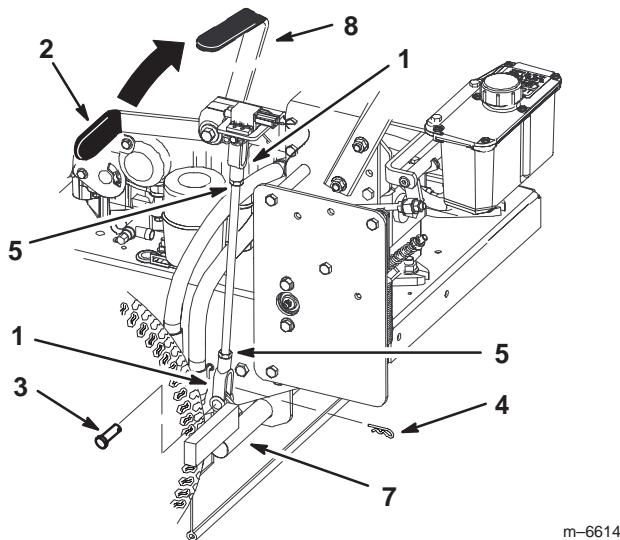

Figure 54
The brake handle is on the left side of machine (Fig. 54). If the parking brake does not hold securely, an adjustment is required.
3. Loosen the top and bottom jam nuts (Fig. 54).
4. To adjust the brake, remove the hair pin cotter and clevis pin from the lower brake lever (Fig. 54).
5. Rotate the brake rod in the yokes. To tighten the brake, lengthen the rod between the yokes. To loosen the brake, shorten the rod between the yokes (Fig. 54).
6. Secure the yoke to lower brake lever with the hair pin cotter and clevis pin (Fig. 54).
7. Tighten the top and bottom jam nuts (Fig. 54).